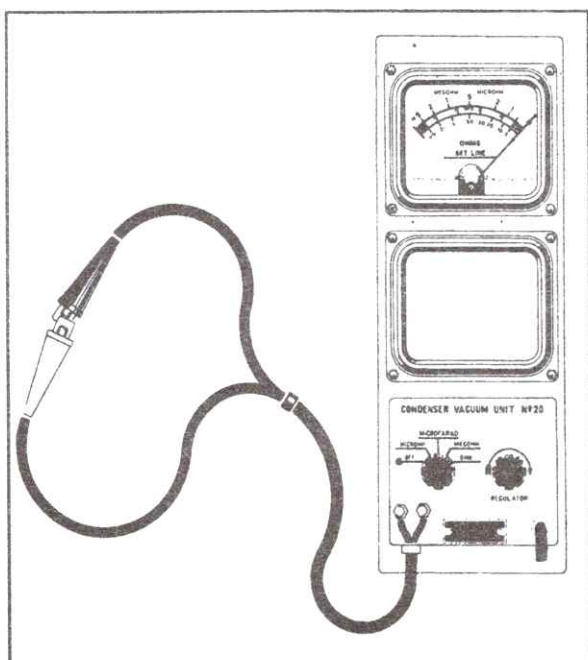

Fig. 6-30 Calibrating Capacitor Tester
1. Connect the Capacitor Tester wire clips together, Fig. 6-30.